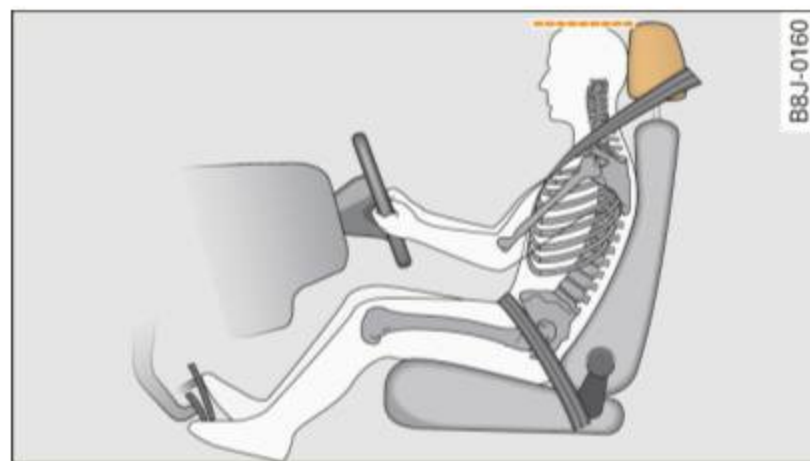

Fig. 159 Correct head restraint position for driver
- Adjust the head restraint so that the upper edge is as even with the top of your head as possible but no lower than eye level and so that it is as close to the back of your head as possible ⇒ fig. 159.